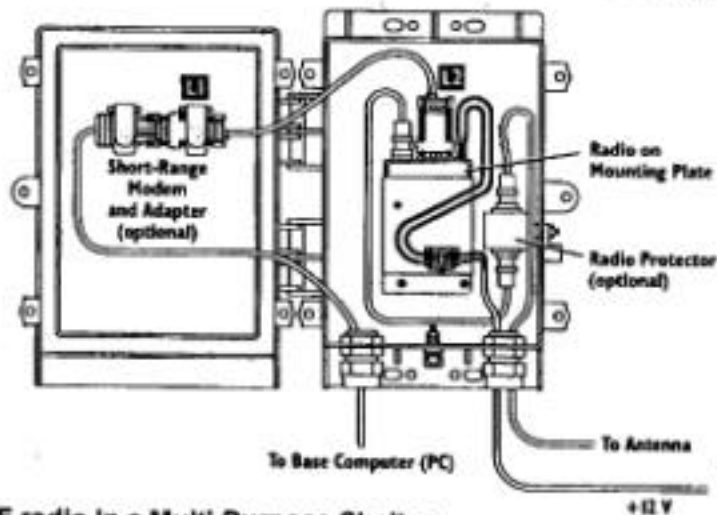

Figure 3. Base station UHF radio in a Multi-Purpose Shelter
Multi-Purpose (MP) Shelter. The MP Shelter is a smaller enclosure suitable for housing a Sensor Interface and Console or a radio and its protector. The MP Shelter is useful when the radio must be located on the antenna mast, exposed to weather. Figure 3 shows an RF Neulink radio mounted in an MP Shelter at the base station with a Short-range Modem and Protector.